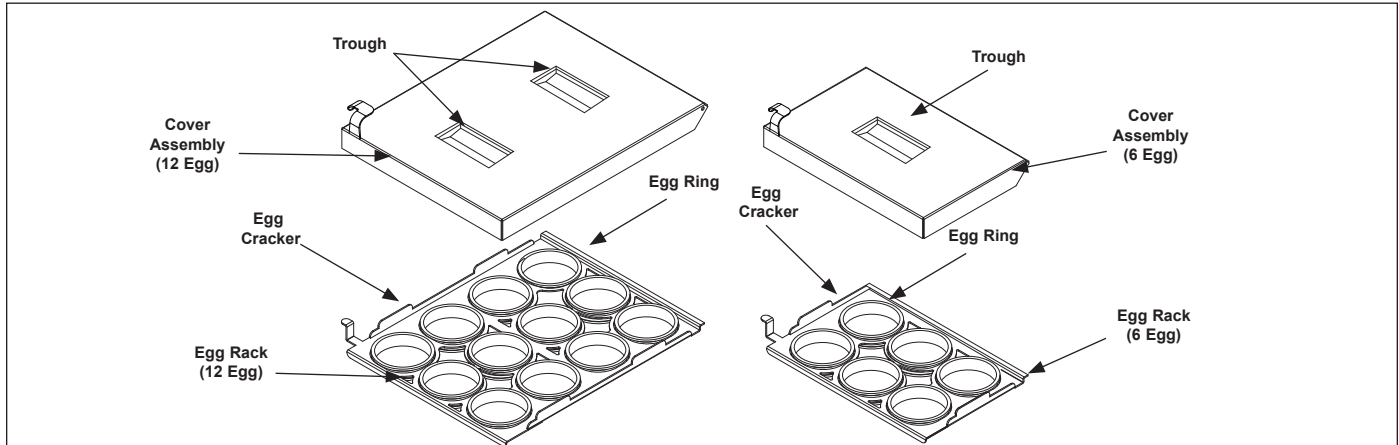

Figure 1. Cover Assembly (12 and 6 Egg)
2. Place Egg Ring into Egg Rack (Figure 1).